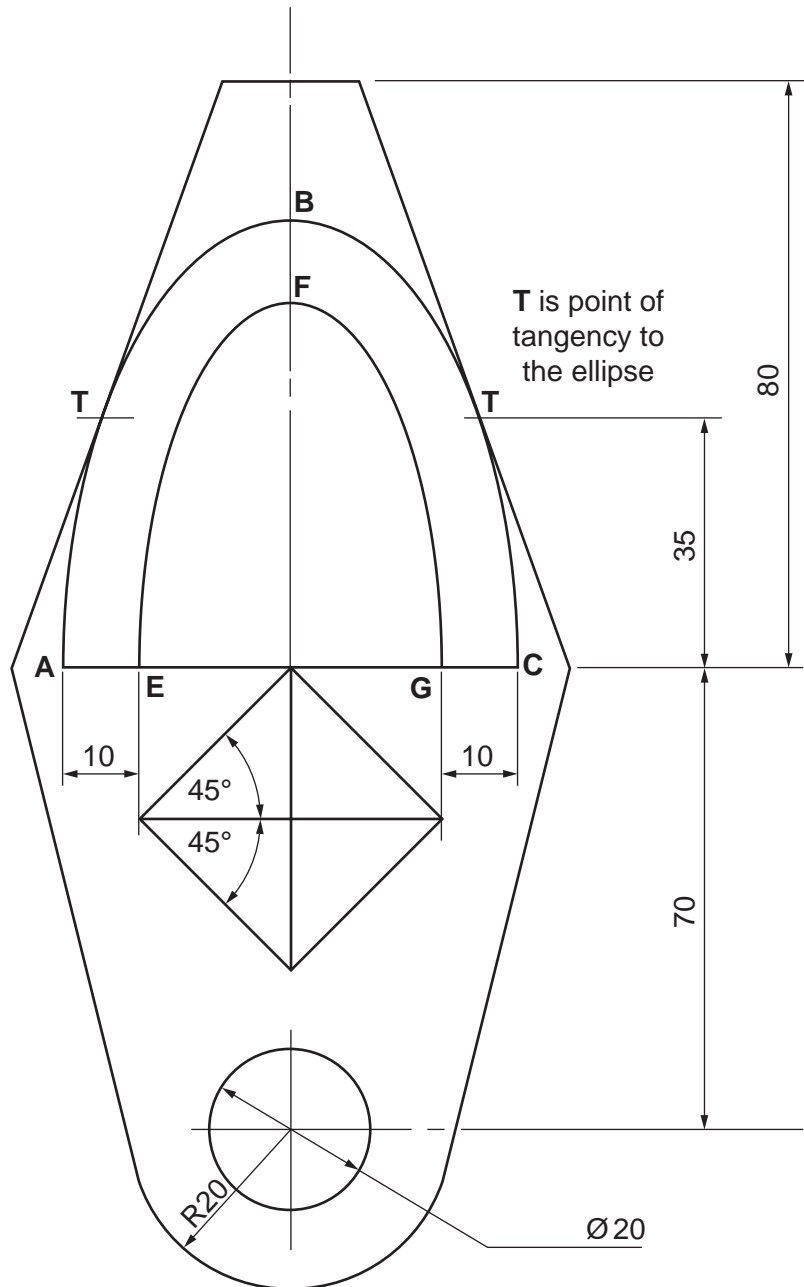

Fig. 1
- 1 Fig. 1 shows the details of a proposed logo for a mining company. Construct, full size, this logo using only geometrical construction and showing clearly the method of construction used to determine all the centres and points of tangency. [20]